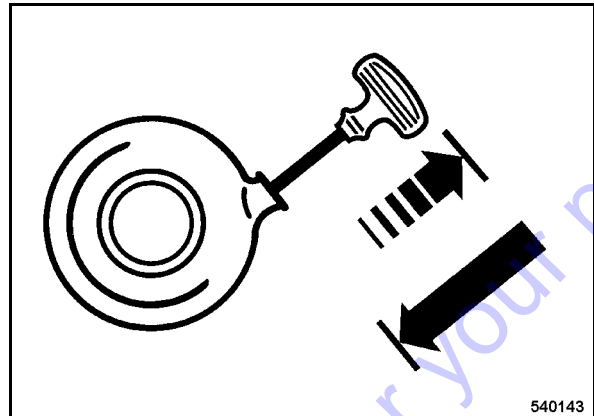

Fig. 15
- Pull the rope by the starter handle (Fig. 15) until resistance can be felt.